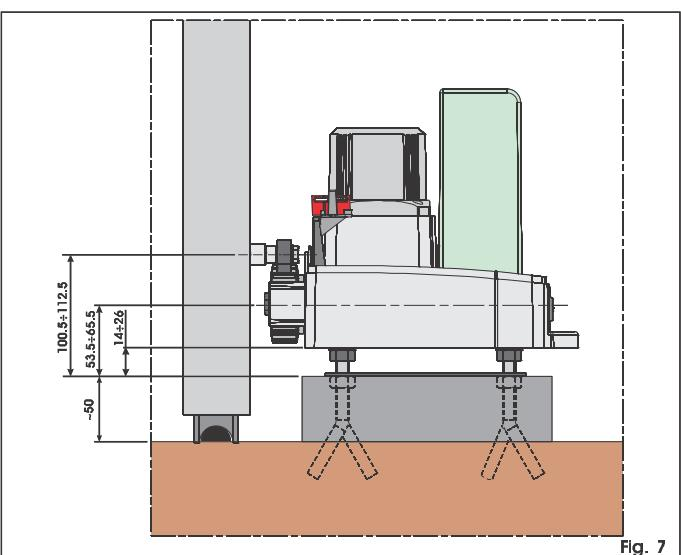
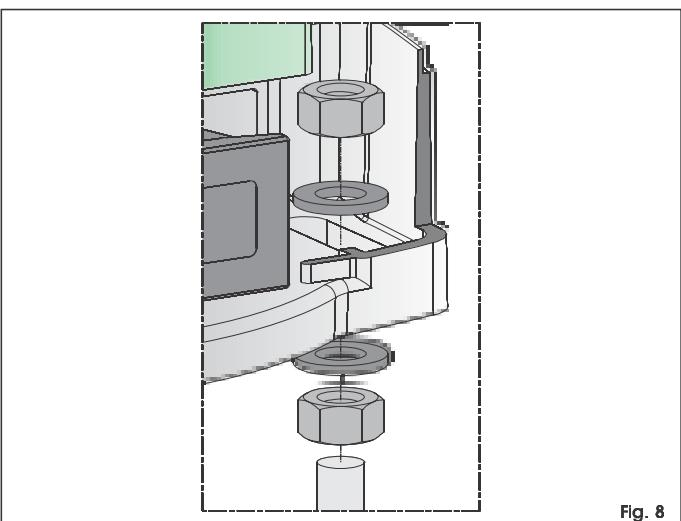

Fig. 7
Fig. 8
- We advise you to place the plate on a cement base about 50 cm off the ground (fig.7).
7. Secure the operator on the foundation plate, using the supplied screws and washers as shown in Fig. 8. The operator's position is shown in Fig. 7. When positioning the operator, route the electrical cables through the hole on the base of the gearmotor body.